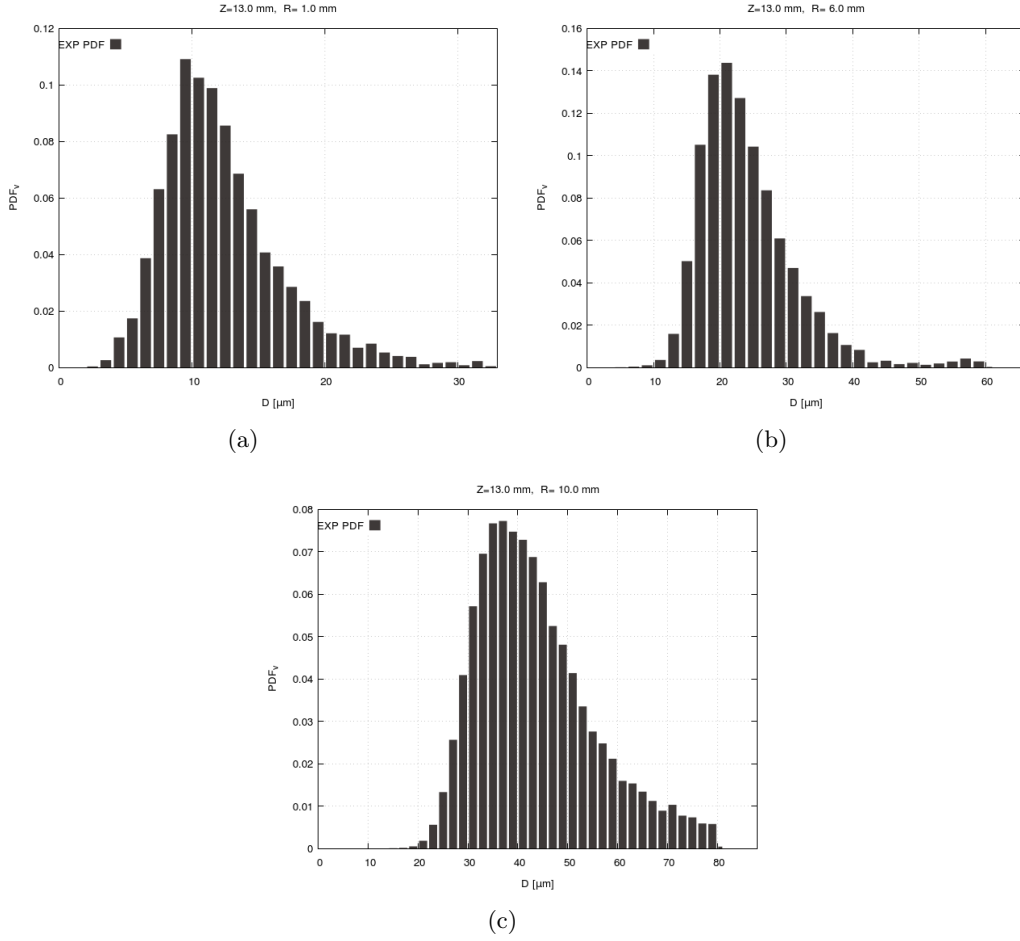

Figure 1: Droplet size distribution at $z = 13 \text{ mm}$ based on droplet's volume at a) $r = 1 \text{ mm}$, b) $r = 6 \text{ mm}$ and c) $r = 10 \text{ mm}$
- Droplet size distribution at $z = 13 \text{ mm}$ based on droplet's volume (Figure 1) for:
- $r = 1 \text{ mm}$ ¹. Figure 1 (a)
- $r = 6 \text{ mm}$. Figure 1 (b)
- $r = 10 \text{ mm}$. Figure 1 (c)